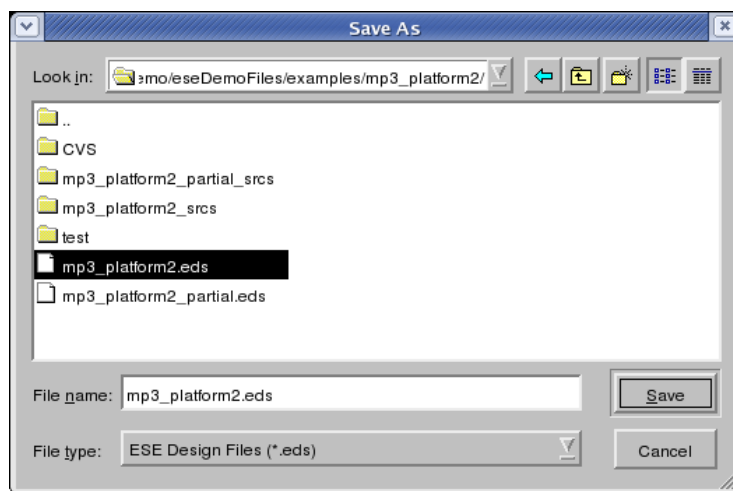

Figure 4-5. Design Save dialog.
2. Users can save the file of the currently active Design Canvas under any (new) name by selecting **Main::File** → **Save As...**. The selection will pop up the Design Save dialog in which users can choose the directory and file name to save the design under. The Design Save dialog is shown in Figure 4-5.